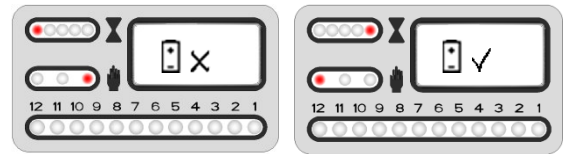

Figure 12
2. Programming will continue when the input voltage is above the 14 volt dc. If the voltage is too low the programming setup will be stopped and two cross flashing indicators and a battery icon will be shown. (See Figure 12)